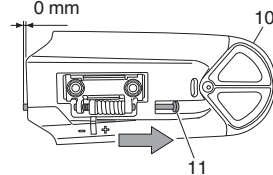

Fig. 39
4. Before assembling, turn the tensioner bolt (11) and adjust the length protrusion of the tensioner bolt (11) from the arm cover (10) to 0 mm (Fig. 39)